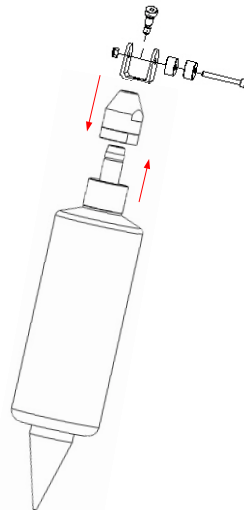

Fig.10
- Plug the tube connector into the cone shape stop, then fill the measured material up to 0.7 ± 0.1 kg in the bottle. Socket the bottle into the “cone shape stop” and feel a lock act (Fig.10).